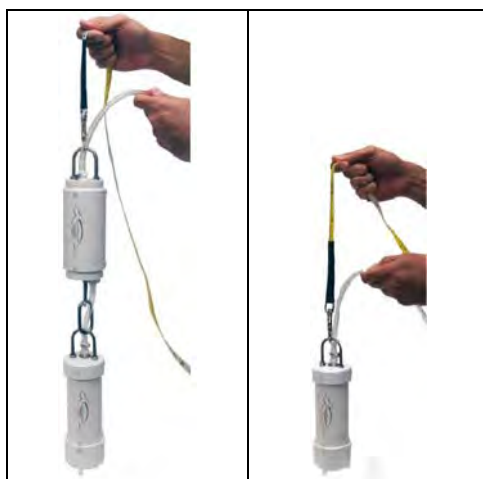

Fig. 17. Left: RU and APM are used for Deep Measurements. Right: for shallow measurements (less than 3 m or 11 ft depth) only APM is used.
**Connect the Tape Hook** (Fig. 17). For Deep Measurements you will need to add the Pressure Regulator Unit in the line above the APM Unit (Fig. 16 right). Note that when the APM hangs from the Tape (with no Regulator Unit in the line), the numbers on the Tape show the distance to the very bottom of the APM. When the Regulator Unit is added in the line, it adds 30.5 cm (one foot) to the total length (Fig. 16 right). Please also note that one side of the Tape is in meters/centimeters and the other side in feet and tenths of a foot (not inches).